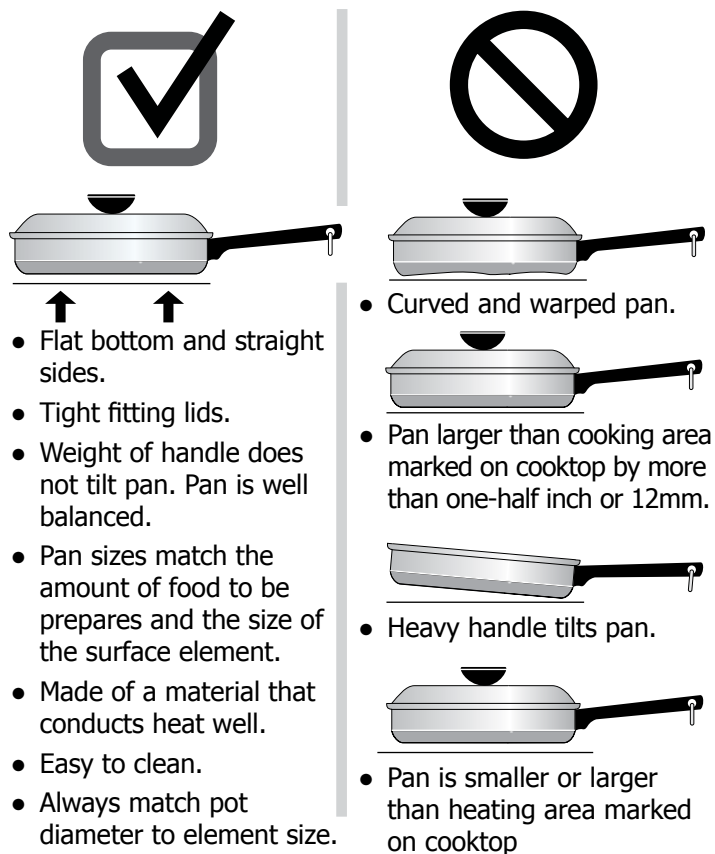
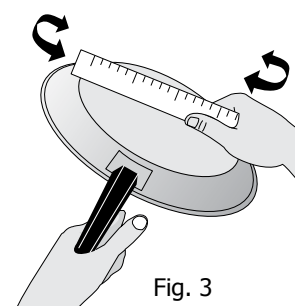

Fig. 2
Fig. 3
Oven with hidden Bake Element - Fig. 3*
Position models with hidden bake element (Fig. 3*)
4. Assemble one connector arm at a time. With the oven door open and the oven rack in place, install one end of the connector arm to the hole in the **door connector bracket** (Fig. 1) and the other end in the hole in the **rack connector bracket** (Fig. 2 and as in Fig. 3). The oven rack may need to be adjusted in or out in the rack position to match the length of the connector arm.
The size and type of cookware used will influence the setting needed for best cooking results. Be sure to follow the recommendations for using proper cookware as illustrated in Figs. 2 & 3.
Cookware should have flat bottoms that make good contact with the entire surface heating element (See Fig. 2). Check for flatness by rotating a ruler across the bottom of the cookware (See Fig. 3).